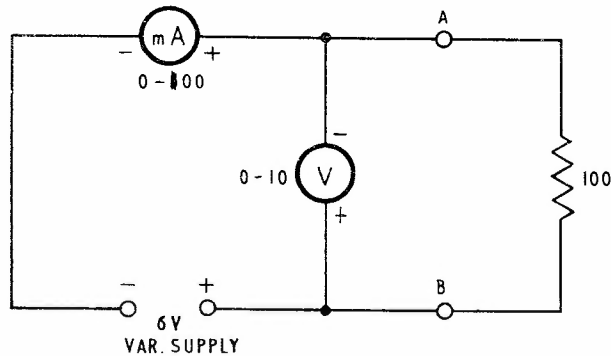

FIG. 1.
STEP 1. Connect the circuit as shown in Fig. 1.
STEP 3. Connect a 150 ohms resistor between points A and B (Fig. 1).